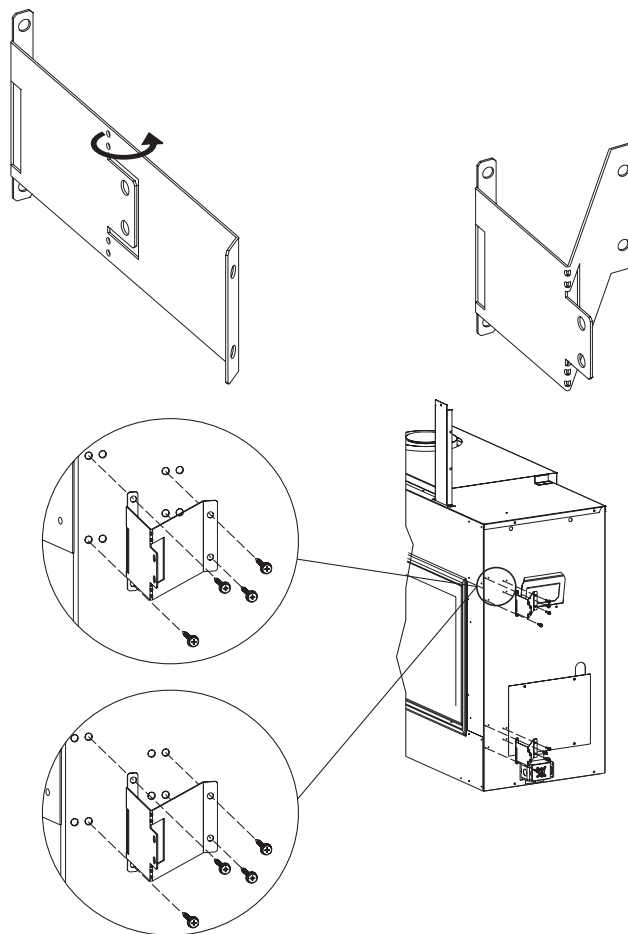

Figure 24
3. Secure the four framing brackets and hand bend them into a V shape as shown in **Figure 24**. Secure with #10 x 1/2-inch hex-head screws.
4. Locate the nailing flanges on the sides of the fireplace (two each side). See **Figure 24**.